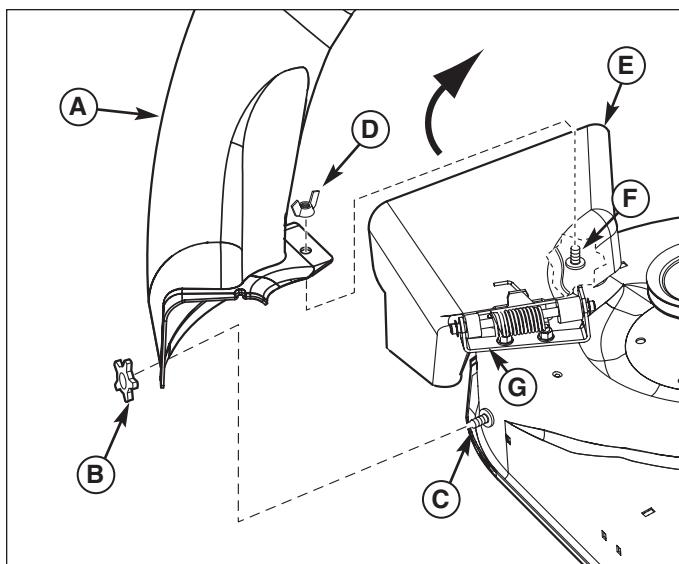

Figure 13. Install Lower Discharge Chute
1. Lift discharge deflector up (E, Figure 13).
2. Place the front hole of the lower chute (A) onto carriage bolt (C) as shown. Slide front edge of lower chute (A) under hinge bracket (G).
3. Place the rear hole of the lower chute (A) onto carriage bolt (F) as shown.
4. Secure knob (B) onto carriage bolt (C) as shown.
5. Secure wing nut (D) onto carriage bolt (F) as shown.